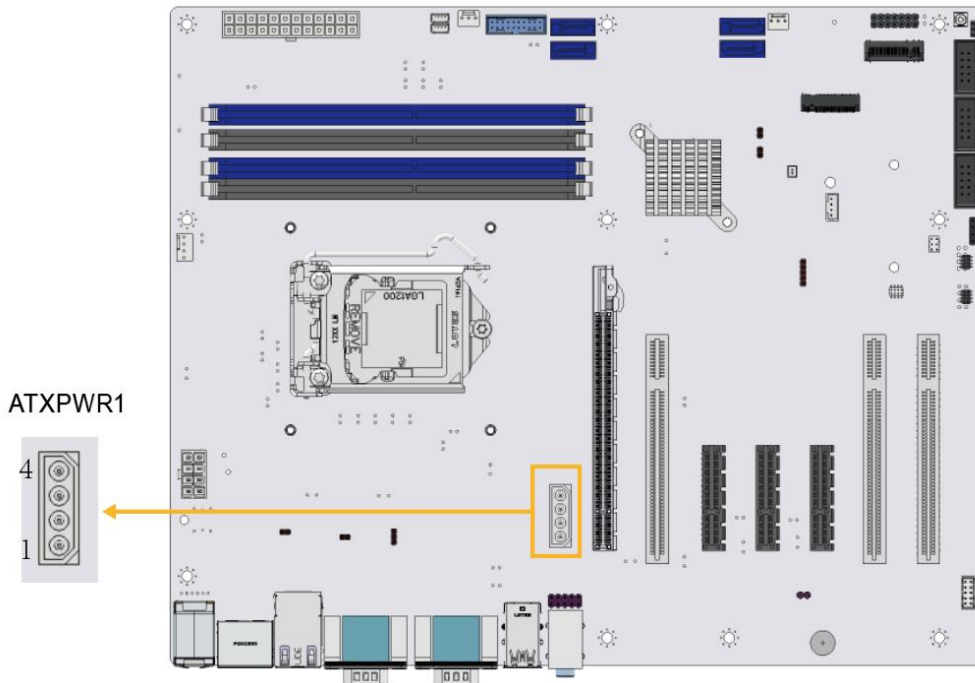

Figure 3-3: PCIe Power Connector Location
- CN Location:** See Figure 3-3